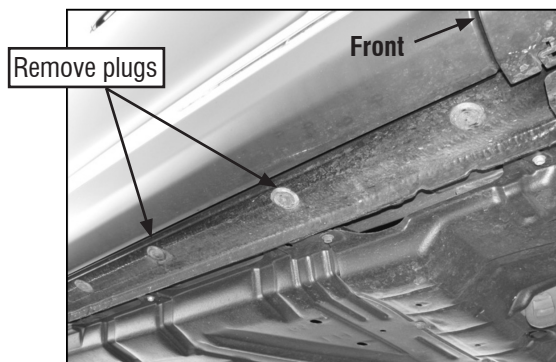
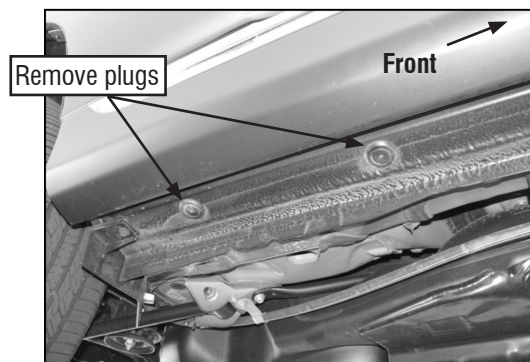

Fig. 1
Fig. 2
Starting on the passenger side front of the vehicle, locate and remove the 2nd and 3rd round factory rubber plugs in the bottom of the body panel located closest to the front tire opening, (Fig. 1). On the passenger side rear of the vehicle, locate and remove the last (2) factory rubber plugs in the bottom of the body panel located closest to the rear tire opening, (Fig. 2).